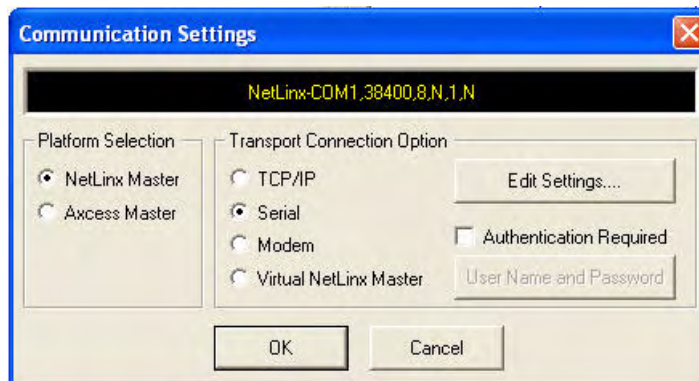

FIG. 35 Communications Settings dialog box
- Click the **Communications Settings** button to open the *Communications Settings* dialog (FIG. 35).